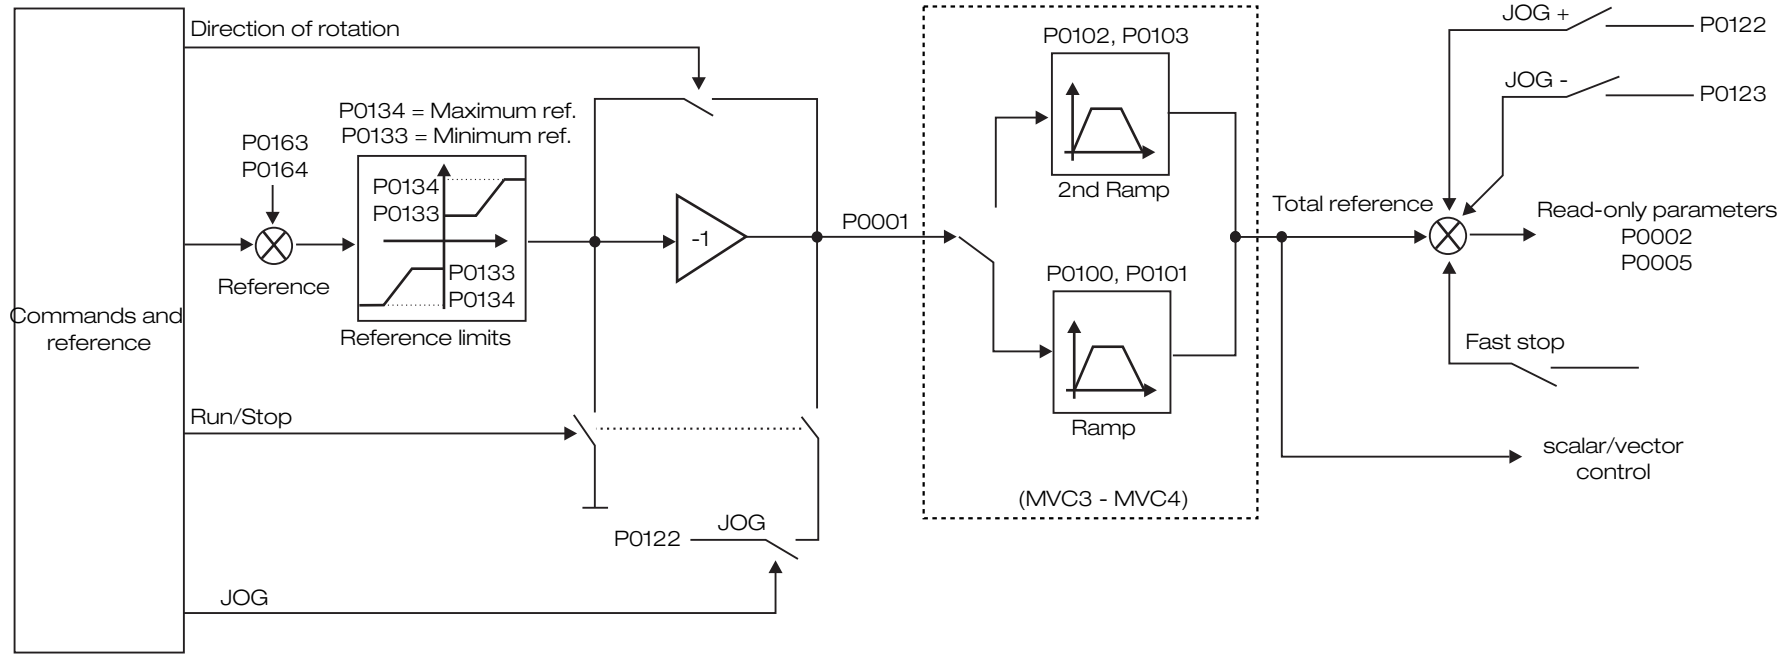

Figure 5.25: Speed reference block diagram
- See Figure 5.25 on page 5-44.